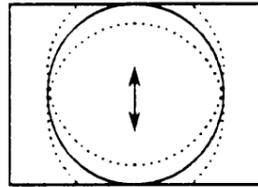

Fig 2
- Adjust the horizontal location to obtain picture centring (fig. 2).